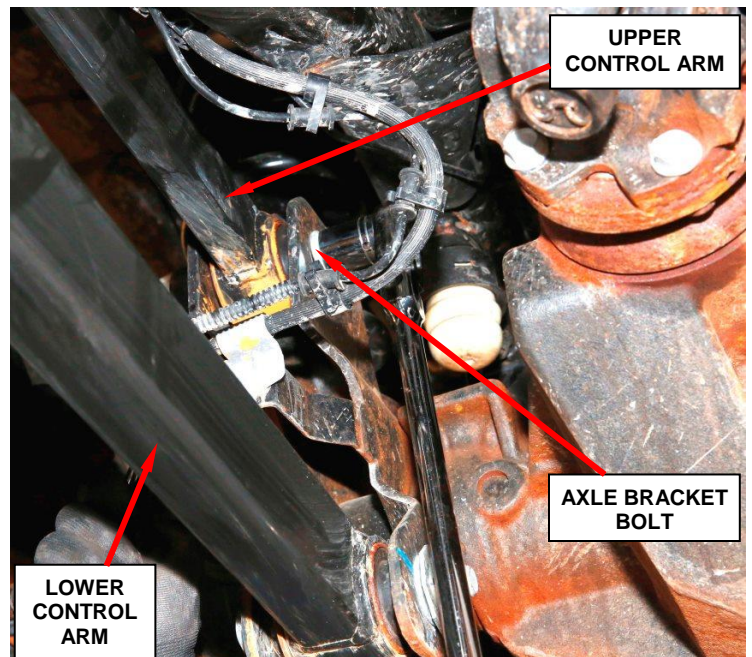

Figure 5 – Axle Bracket Bolt
- a. Remove and discard the upper control arm nut and bolt at the axle bracket (Figure 5).